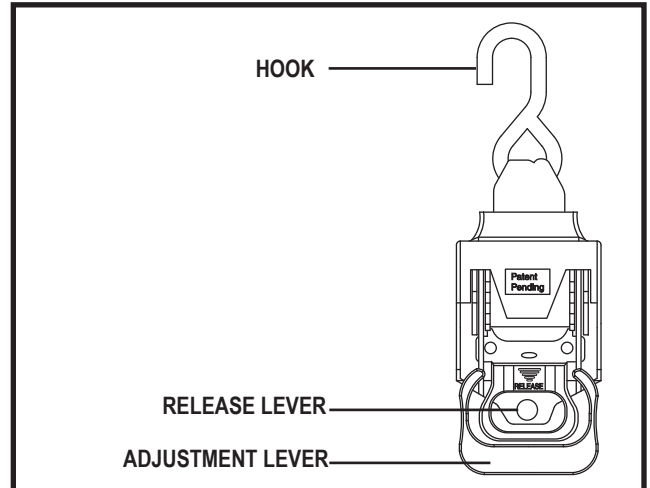

Figure 15. Retractable Tie-down Strap
- Squeeze together the release and adjustment levers on the retractable tie-down strap and simultaneously bring both levers forward to a 90-degree position until they “click” then lock into place. This will unlock the tie-down strap. **See figures 15 and 16.**
- Once each strap is secured in the proper position, squeeze together the release and adjustment levers and simultaneously bring both levers rearward to their original positions. This will lock the tie-down strap. **See figures 15 and 16.**